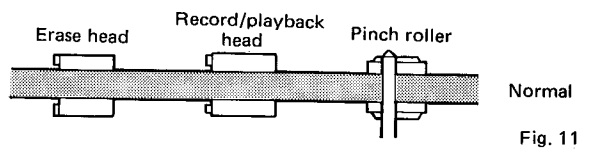

Fig. 11
3. Confirm that tape travel is as shown in Fig. 11; the tape should not be in contact with the tape guides and should be centered on the pinch roller.